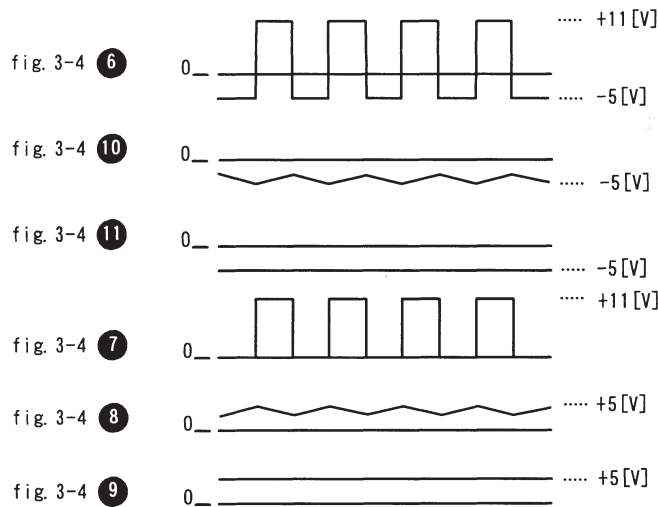
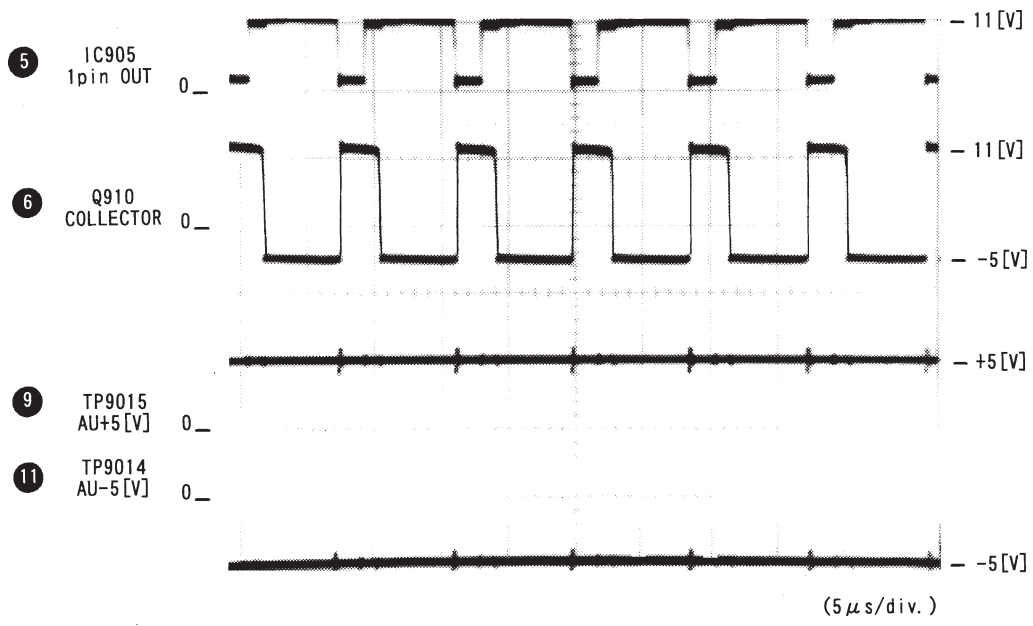

Fig. 3-6 Waveform timing when generating the AUDIO ± 5 V
Fig. 3-9 AUDIO ± 5 V power supply voltage generator circuit waveform timing chart
(5) Generating the AUDIO ± 5 V
Fig. 3-6 shows the waveform timing chart when generating the AUDIO ± 5 V. When the system controller IC907 is started with MiniDisc recorder connected to station, "H" signal is output from pin⑦ [PCONT]. Q911 (1/2) and (2/2) are turned "ON" by this "H" signal so that the 9 V that is input to the DC jack, is supplied to the POWER CONTROL2 IC905 pin② [VCC] through the line filter LF902 and L904. When IC905 starts up, the PWM waveform that is internally generated by the built-in PWM comparator, is output from pin① [OUT]. Q910 is started the switching operation by this PWM waveform, and the step-down DC-DC converter circuit is started up. Then output of Q910 (refer to ⑥ of Fig. 3-6) is input to T901 where its energy is converted (refer to ⑦ of Fig. 3-6), smoothed by T901 coil and C911 to generate +5 V (refer to ⑧ of Fig. 3-6). The +5 V is voltage-divided by the voltage-divider-resistor of R918 to R920, R955 and R922. Output voltage from the divider is fed back to IC905 pin④ [INPUT]. Based on this feedback voltage, IC905 controls the voltage by controlling the PWM waveform duty generated by the internal PWM comparator. The AUDIO +5 V is thus generated. The AUDIO +5 V is supplied to the AUDIO circuit via smoothing circuit of L902 and C906. (Refer to Fig. 3-9.)
Output of Q910 (refer to ⑥ of Fig. 3-6) is smoothed out by D906 and a negative voltage power is generated. (Refer to ⑩ of Fig. 3-6.) The negative voltage power is removed of ripple by L901, C905 and C909, and the AUDIO -5 V (Refer to ⑪ of Fig. 3-6.) is generated. (Refer to Fig. 3-9.)